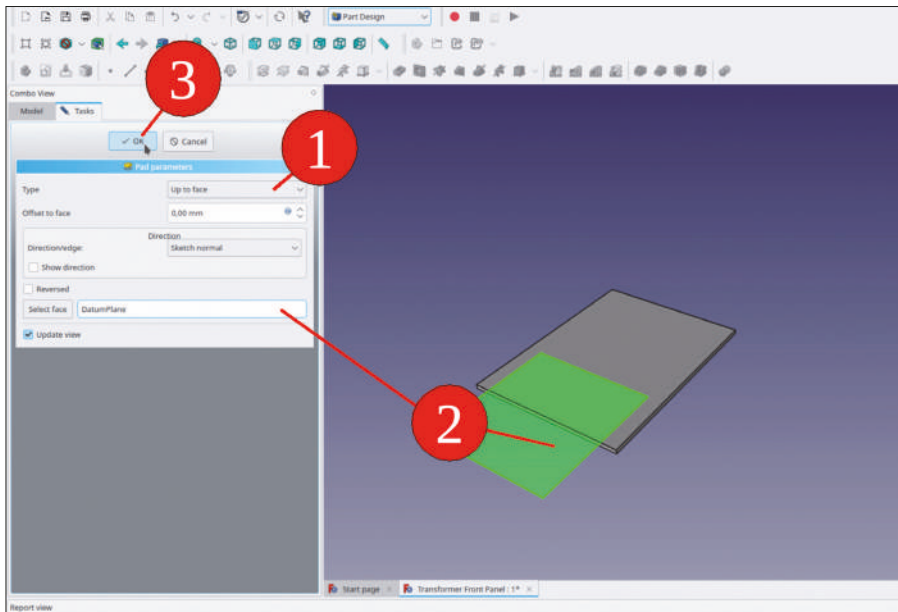

Figure 9-9
9. In the task window, select for the type 'Up to face'. Then, click the datum plane representation in the 3D view (Figure 9-9). Close the task window with the 'OK' button.